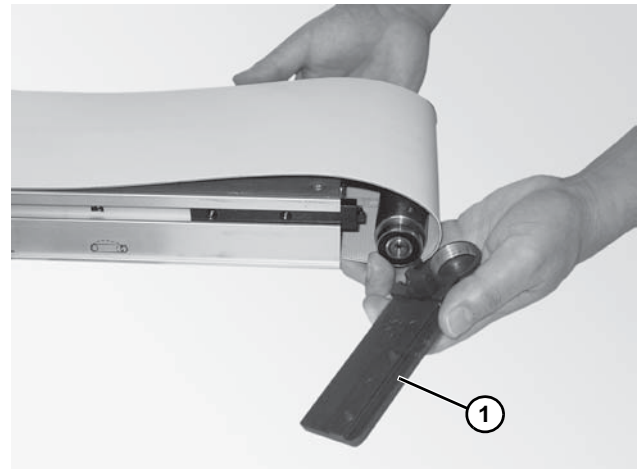

Figure 32
2. Remove the head plate (**Figure 32, item 1**) from the conveyor frame.